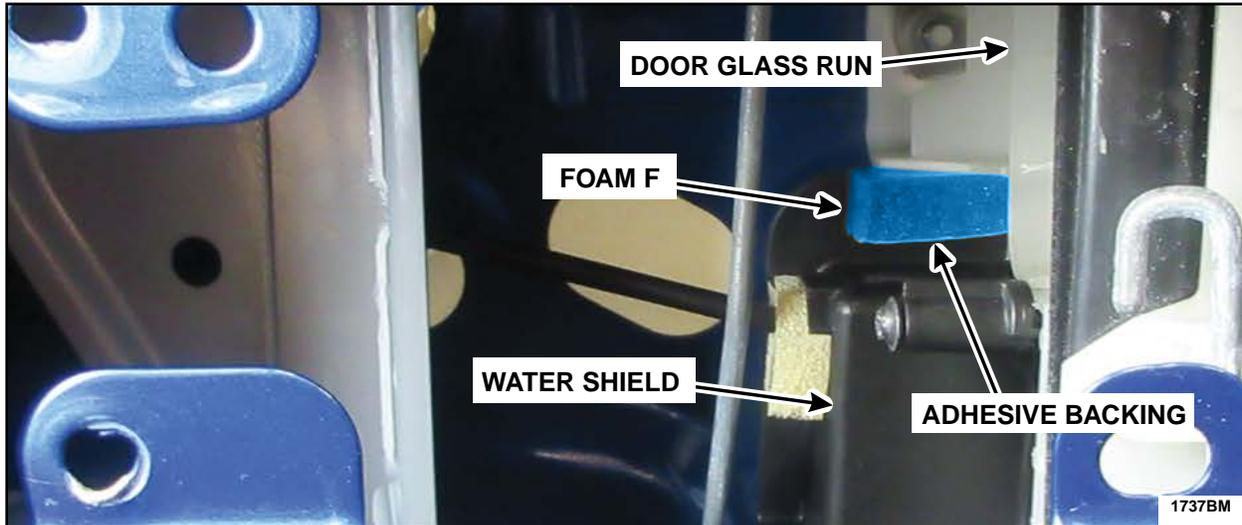

FIGURE 35
5. Using a trim tool, install Foam F between the water shield and the door glass run. See Figure 35.